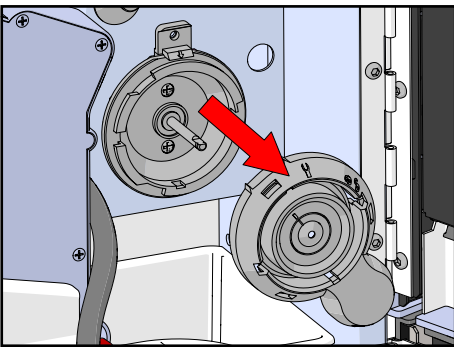

Figure 53.
8. Remove the mixer ring by turning it counter-clockwise (see Figure 53).